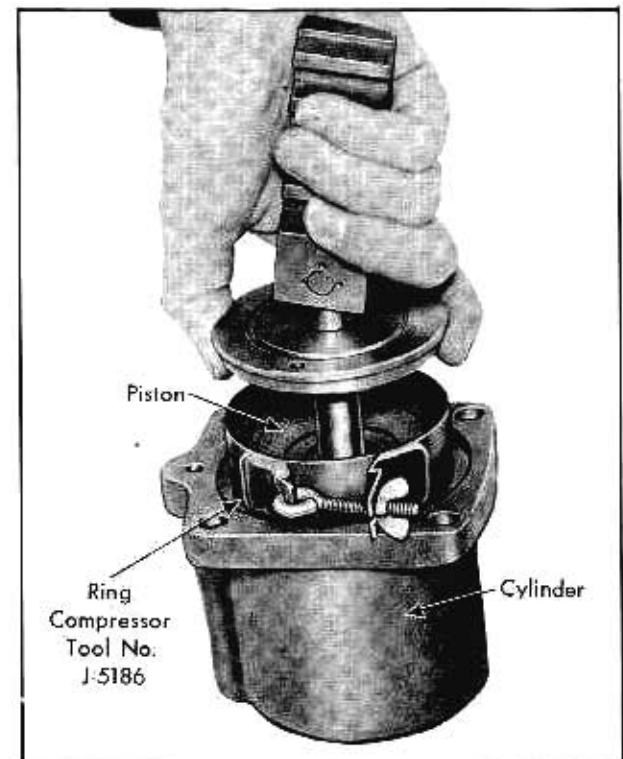

Fig. 7-35 Installing Piston in Cylinder
6. Install piston in cylinder, using Ring Compressor, Tool No. J-5186, to compress piston rings. Fig. 7-35.